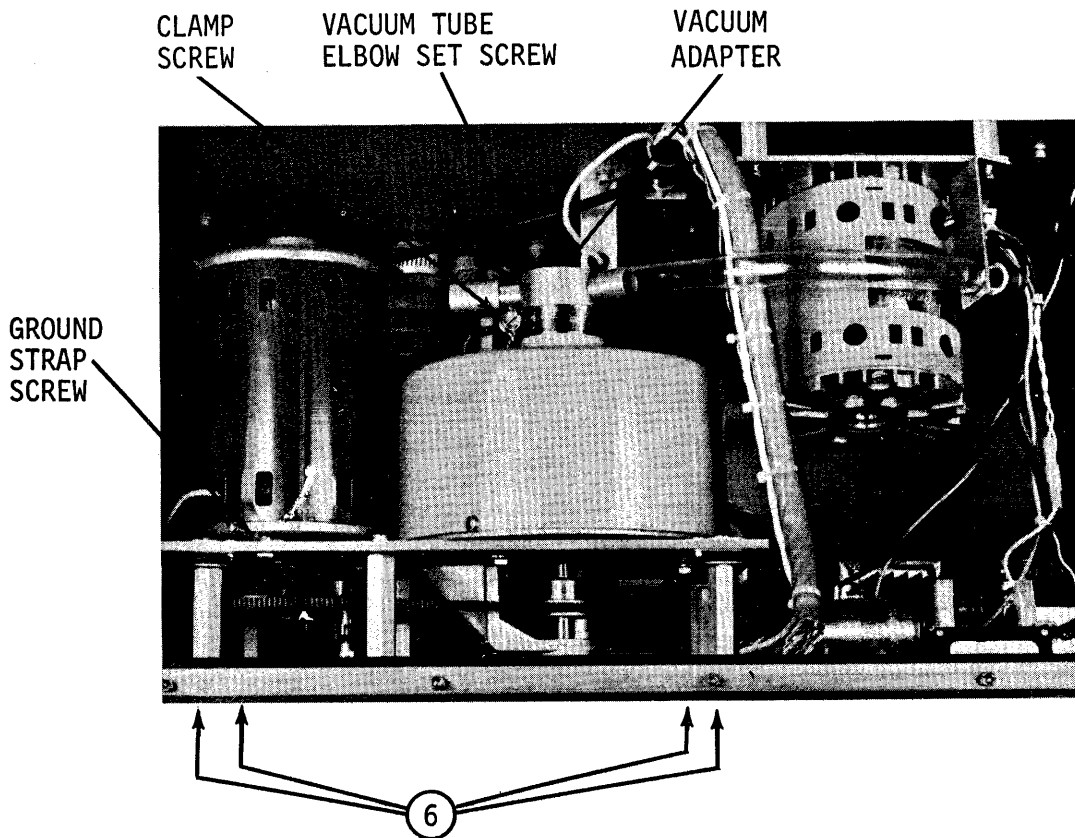

Figure 6-17. Removal of Vacuum Blower Motor Assembly
- g. Loosen the vacuum adapter clamp on the top of the pump and remove from the pump, figure 6-17.
- h. Using a Phillips screwdriver, remove the ground strap from the pump mounting plate, figure 6-17.
- i. Using a 1/2" open-end wrench to hold the mounting post, remove the four Phillips head screws located on the bottom of the baseplate, figure 6-17.